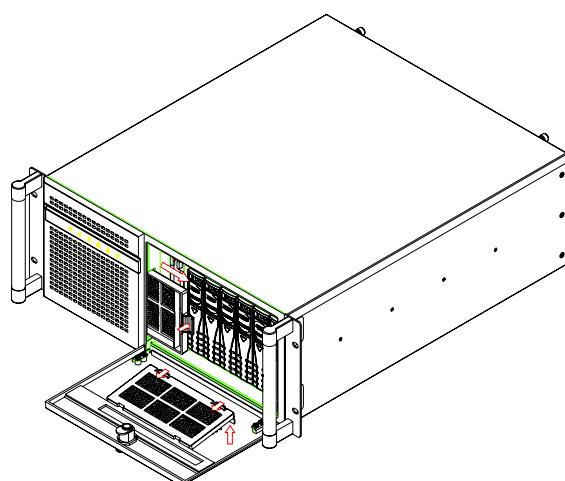

Figure 3.7: Cleaning the filters
3. Clean the filter with a soft brush and wash the dust away from the filter with fluorescent water. Then dry it. (see Figure 3.7)